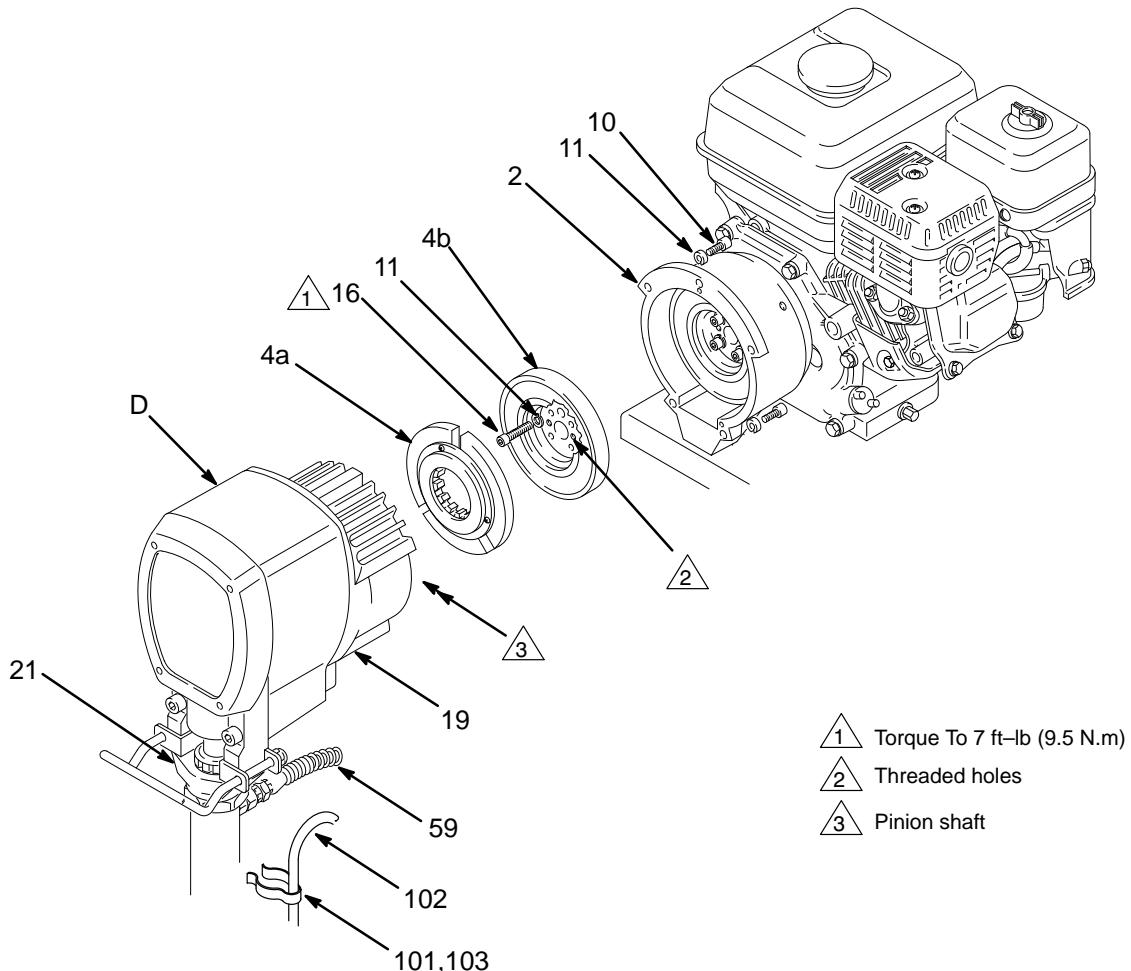

Fig. 23
**NOTE:** The clutch assembly (4) includes the armature (4a) and rotor (4b). The armature and rotor must be replaced together so they wear evenly.
**NOTE:** If the pinion assembly (19) is not yet separated from the clutch housing, follow Steps 1 to 4. Otherwise, start at Step 5.
2. Disconnect the hose (59) from the displacement pump. **For the upright carts only**, detach the drain hose (102) from the pump.
3. Remove the bottom two screws (10) from the clutch housing (2) and then the top three screws.
4. Tap lightly on the back of the bearing housing (21) with a plastic mallet to loosen the assembly (D) from the clutch housing (2). Pull the assembly away; the armature (4a) will come with it. Remove the armature from the pinion shaft.
5. Remove the four capscrews (16). Install two of the screws in the threaded holes in the rotor (4b). Alternately tighten the screws until the rotor comes off. See Fig. 23.